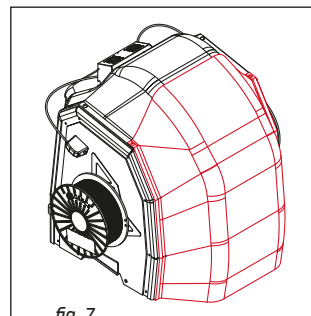

fig. 7
8. Mount the front enclosure part. Front part should overlap the top enclosure part (fig. 7). Magnets will hold the enclosure assembly together.